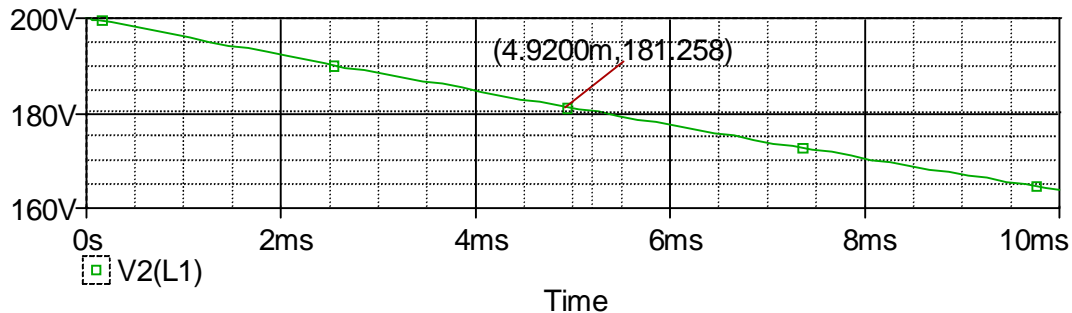

Figure 4.2 Trace of the voltage across the inductor with a point labeled.
If everything has been successfully completed to this point, the simulation may now be "Run". Once the simulation is complete the probe graph appears with the "Trace" buttons etc.. Choose "Trace->Add Trace" and then select V2(L1) from the list - or select V(1) from the list since the voltage at node 1 relative to ground (node 0) is that across L1 . Completing this process yields the trace in Figure 4.2.
The calculations suggested prior to the actual simulation should be $V(t) = 200e^{-20t}$ V and $I(t) = 12.5e^{-20t}$ A (this assumes the current to be flowing from terminal 1 to terminal 2 through the inductor, which is opposite the passive sign convention, so that a $-I(t)$ must be entered into the derivative when calculating the voltage) . If you substitute 4.92ms from Figure 4.2 into the expression for $V(t)$ the result should be 181.258V. Also, a plot of the current $I(t)$ can be made by selecting $I(L1)$ from the list in the "Add Trace" menu. Notice what happens to I when $I(R1)$ is selected instead -- why? Also, you may alter the "look" of the curves by lengthening the run time of the simulation -- try it.